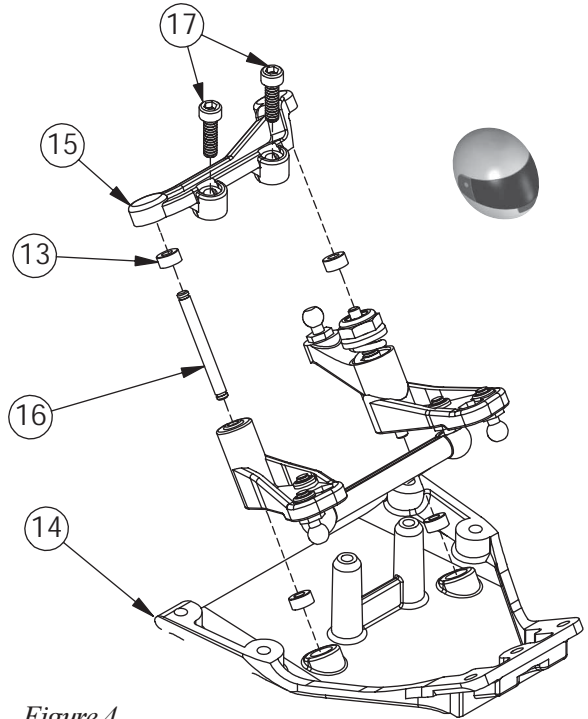

Figure 4
❑ 2. Insert a 3/32" x .930" Hinge Pin (16) through the hole in the steering Idler Arm (8) and center the Hinge Pin in the Idler Arm. Place the Servo Saver assembly and the steering Idler Arm into the Bearings in the Kickplate so that the installed Draglink is to the front as shown in Figure 4.